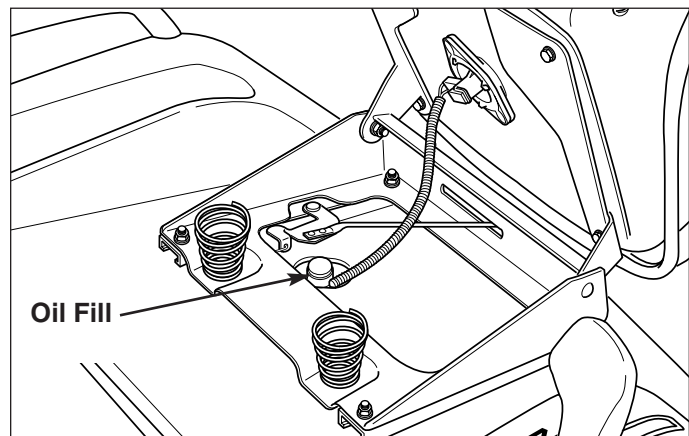

Figure 26. Transmission Oil Fill
There should be 1" to 1-1/2" of oil in the tube. If there is no oil in the tube add Type-F automatic transmission oil a few ounces at a time. The transmission fill tube is located under the seat (see Figure 26).
3. Add Type F transmission fluid through the oil fill (see Figure 26). Capacity is 6 quarts (5.7 L).